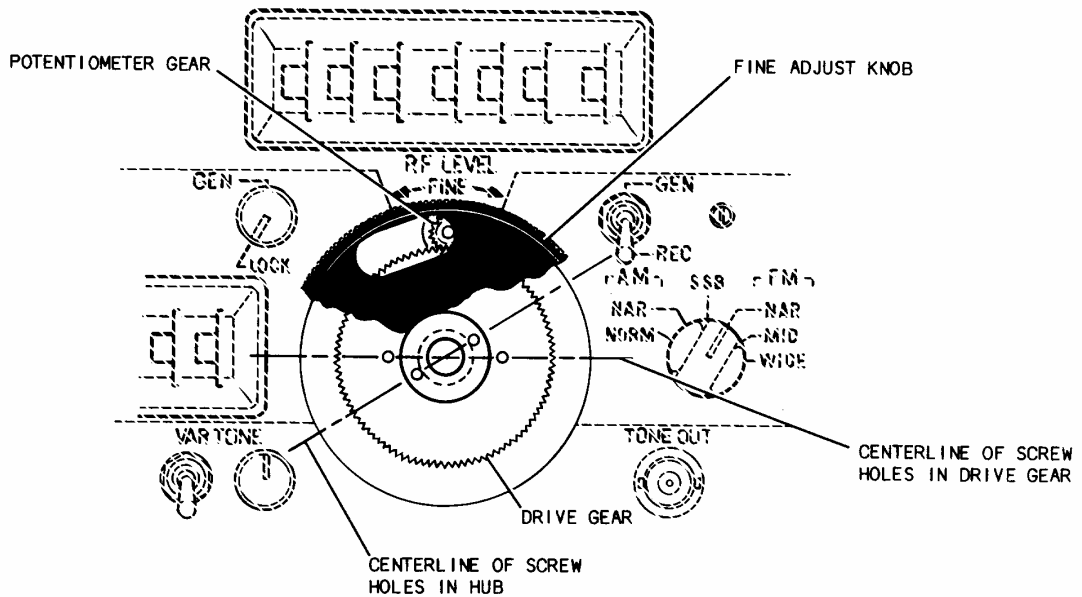

Figure 6-10 Attenuator Control Alignment
Screw holes in gear must be aligned horizontally. Holes in hub must be aligned just above center line of VAR TONE Volume knob or the plug in the Front Panel (see Figure 6-10).
12. Place FINE Adjust knob (33) in position, with machined slot over gear (2). Insert 0.005 inch shimstock (Appendix C) between knob (33) and hub (31). Rotate knob fully ccw so end of slot contacts gear and install two flat head screws (34) (Figure 6-10). Monitor ohmmeter to prevent accidental change in potentiometer setting. Remove shimstock.